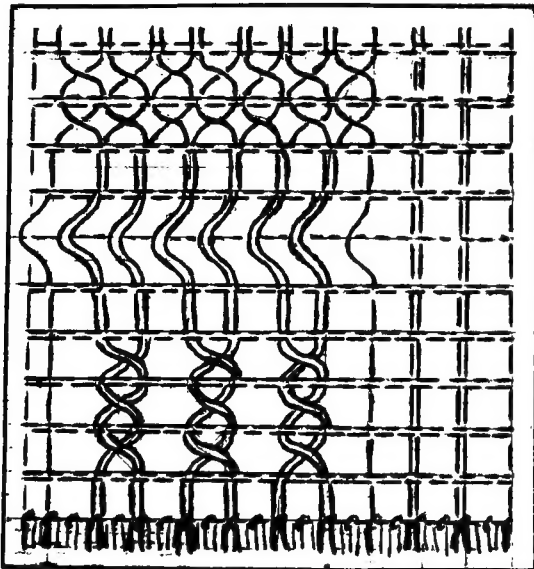
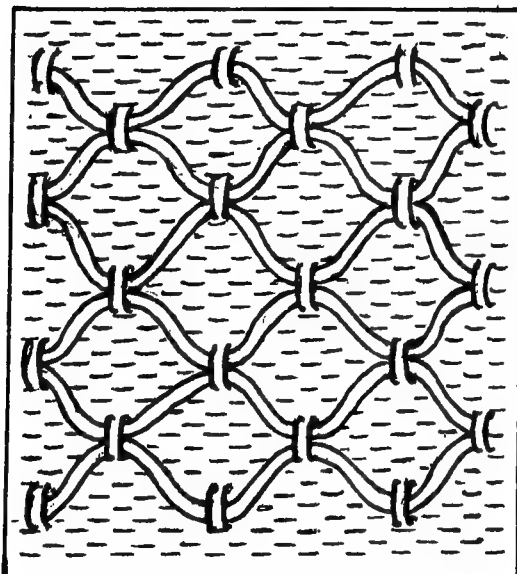

Figure 1. Deflected Warps
Figure 3. Deflected Wefts
The method is used a great deal for modern textures. Examples of deflected warps are shown in Figure 2. Directions in the diagram of Figure 1. Examples of deflected wefts are shown in Figure 3. There are many lovely textures possible for a weaver to create because of the liberty given one in changing the usual courses of the warps and wefts.
Draft for Figure 1
Follow draft, Figure 1. When directions call for an added texture thread, place it on H.3 Thread as follows:
Sley 2 per dent. Sley each heavy warp in circle of Fig.1 through same dent as an adjacent plain warp, see brackets in draft.
8. Weave Trs. 4; 1; 4; 1; 4; 1. This leaves black warps unwoven and showing above the background texture. Now twist adjacent warps together with a stick or fingers, as shown twisted, see pairs of Fig.1. Let the tabby come out directly below twist, pass shuttle through twist, then enter at same place again and carry only to next warps ready for another twist. This will hold center of cross to fabric and makes a functional cloth.
A typical threading and its appearance after being woven is given in Figure 3. It is a fascinating technique, suggesting to the weaver endless variations, both in method, and in materials, and it is found useful in weaving upholstery and drapery textures, - pillows, mats, bags and purses, screens and hangings, as well as fancy dress materials, stoles, baby blankets and evening jackets.
The method of weaving is really very simple when you know the principle. Harnesses 1 and 2 are threaded as plain weave, and it is these that give the background tabby in the entire texture. At the intervals where one wishes the weft threads to be caught up one introduces a pair of warps to bind in the deflected wefts. These are threaded on H.3 or H.4, and in the effect shown here, in Figure 3, the pairs alternate, first a pair on H.3, then a pair on H.4, etc.
We therefor get a zig-zag alternation, as shown in Figure 3, -and the two alternating blocks or nodes are called by the French term, "Cannele Alterne".
In deflected wefts the warps act as loops to catch and hold heavy wefts out of place, and the wefts form an overlay of design. In deflected warps the wefts remain fairly constant and horizontal, holding down the deflected loops where desired. Compare the two techniques by referring to Figures 1 & 3.
However, you will note that the weaving is much the same as in Summer and Winter, with each of the tabby harnesses used with the design threads, - namely: Hs. 1 & 3; 2 & 3; 1 & 4; 2 & 4, etc. On a Jack loom, if one weaves Hs. 1-3, 2-3, etc., the alternate warps on H. 4 fall to the lower shed, below the cloth; and only the heavy pairs on H. 3 rise to catch the wefts. When one weaves the Hs. 1-4 and Hs. 2-4, the heavy warps on H. 3 are held below the surface, and only the warps on H. 4 catch the deflected wefts. We therefor get a zig-zag alternation, as shown in Figure 3, and this is called by the French word, "Cannele' Alterne'."
Sley plain weave warps 2 per dent. Be sure to always sley an accent warp with an adjacent plain weave warp, see brackets, - Figure 3. For closer slewing, put 2 plain weave warps plus an accent warp through the same dent.